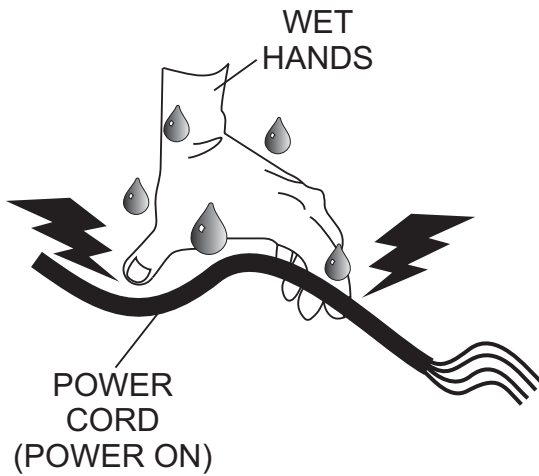

Figure 16. Power Cord (Wet Hands)
4. **NEVER** grab or touch a live power cord (Figure 16) with wet hands, the possibility exists of **electrical shock**, **electrocution** and even **death**.